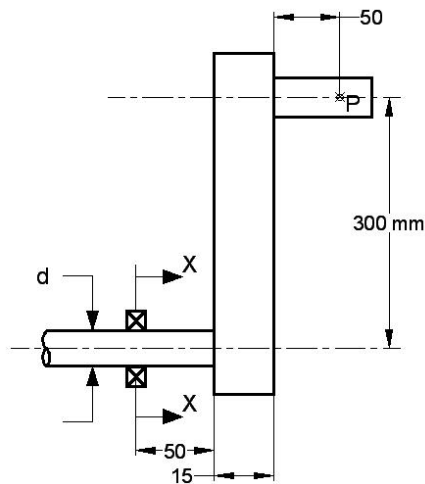

Fig. 4
- Q.5 (a)** The dimension of an overhang crank is shown in **Fig. 4**. The force P acting at the crank pin is 250N. The crank is made of steel 40C8 ($S_{yt} = 400 \text{ N/mm}^2$) and the factor of safety is 4. Using Maximum shear stress theory of failure, determine the diameter at section- xx. **08**